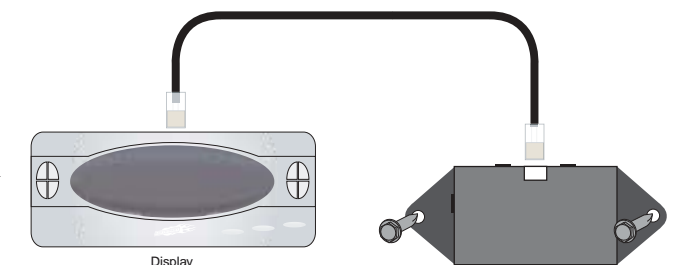

Figure 9
2. Attach the bracket to the chosen mounting location using the provided screws (Figure 9).
5. Connect one end of the CAT 5 cable to the ECU and the other to the display panel (Figure 9).